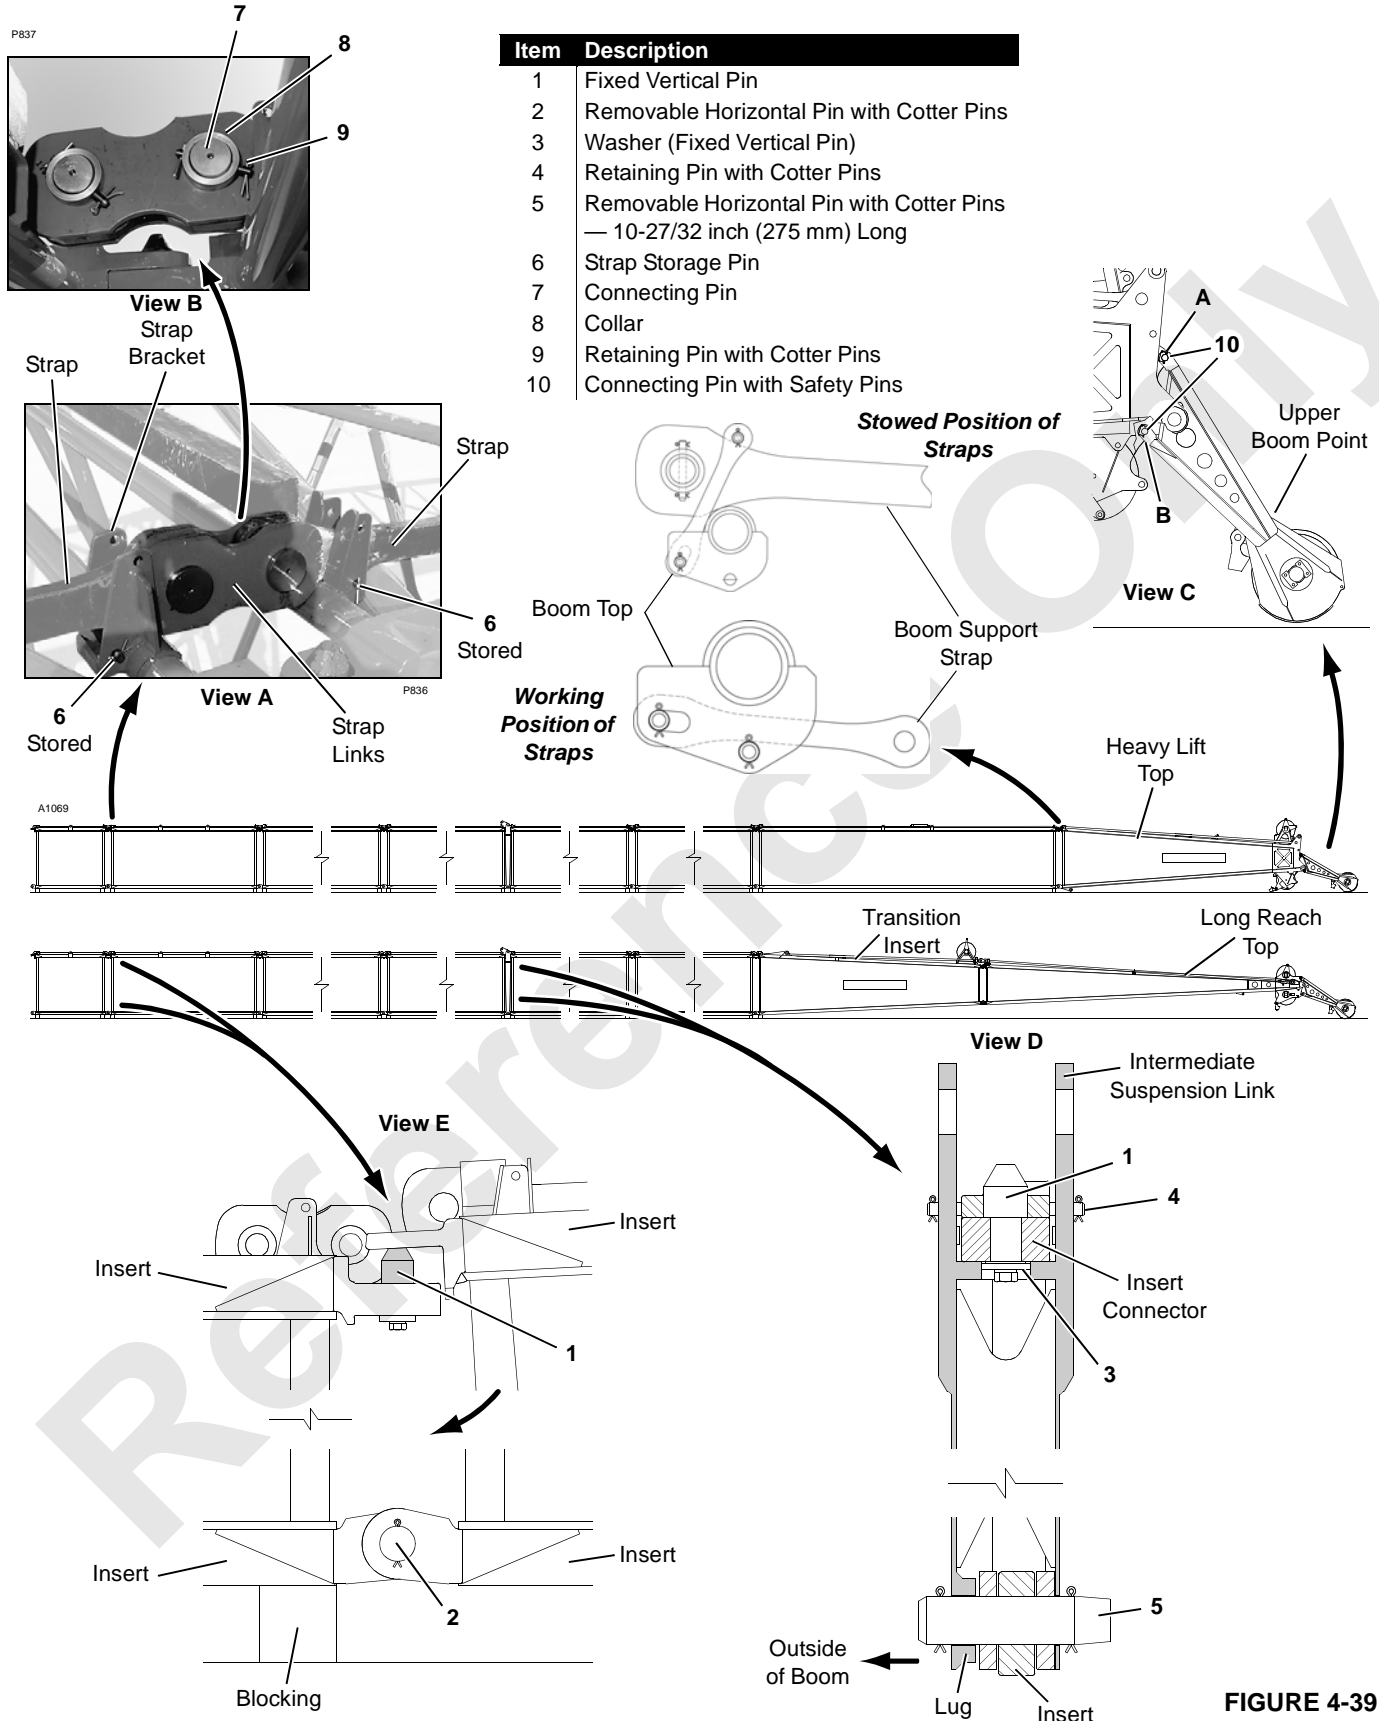

FIGURE 4-39
- c. Lower insert until bottom connector holes are aligned and install removable horizontal pins (2, Figure 4-39, View E).
- The top connectors are joined by fixed vertical pins that hook into holes in the adjacent section (Figure 4-39, View E).
- The bottom connectors are joined by removable horizontal pins (Figure 4-39, View E).
See Figure 4-39 for following procedure.
2. Align upper connecting holes (A, Figure 4-39, View C) and install connecting pins (10).
4. Install lower connecting pins in holes (B) when boom is raised.
2	Connecting Pin with Collar and Retaining Pin (Figure 4-39, View B)